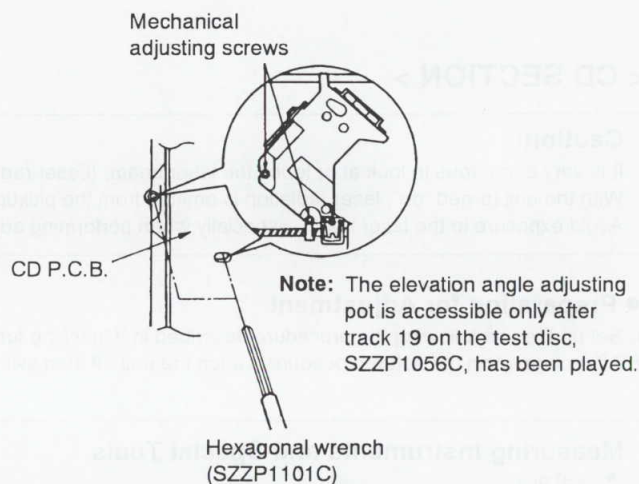

Fig. 9
4. Alternately adjust the two mechanical adjusting screws with the 2.0 mm allen wrench (SZZP1101C) until the RF signal amplitude on the oscilloscope is maximize. (Shown in Fig. 9)